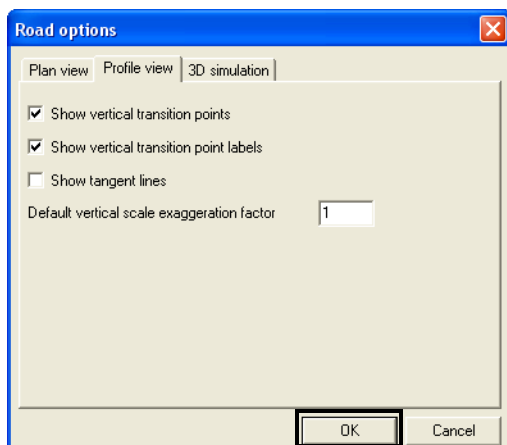

Figure 6-51. Set Plan View and Profile View Options
3. On the *Profile view* tab, select the desired parameters (Figure 6-51 on page 6-42) and press **OK**.